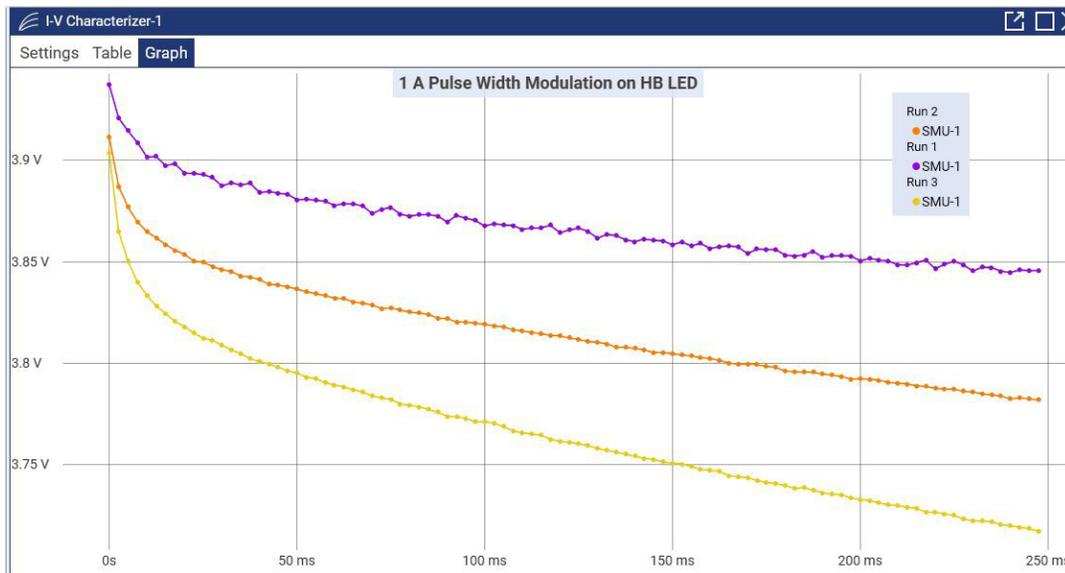

Figure 18: Pulse width modulated output data presented graphically.
- 18. Your final plotted output should look similar to the **Figure 18**.